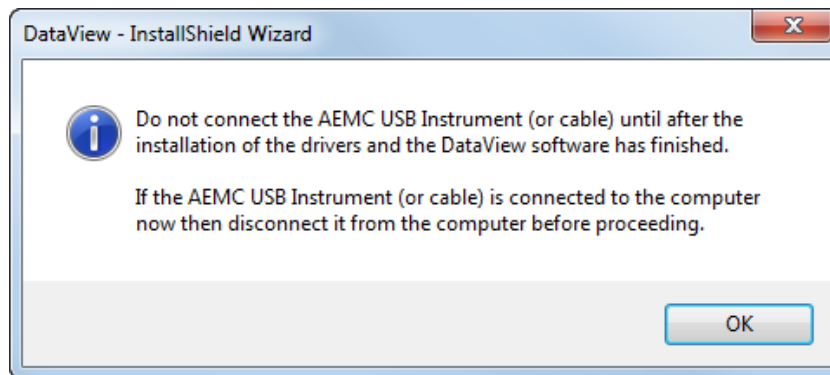

Figure 6-4
13. If the instrument selected for installation requires the use of a USB port, a warning box will appear, similar to Figure 6-4. Click **OK**.